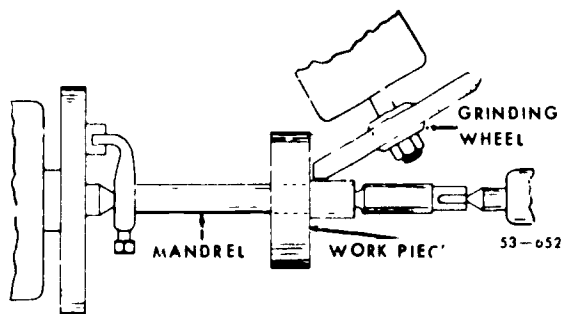

Figure 3-16 Setup for grinding a face shoulder, or recess with an angular shaped wheel
**Face Grinding.** Face grinding is often necessary on heat-treated parts and hard parts to obtain the correct length and finish. In making the work setup, always make sure that the face to be ground is square with the axis of the work. If possible, do all the necessary grinding operations, such as cylindrical, shoulder, and face grinding, at one setting to insure maximum accuracy. There are three methods of face grinding: angular wheel, cup wheel, and straight wheel. You normally use the angular wheel method, shown in figure 3-16, when you grind two or more surfaces, such as a cylindrical surface, the shoulder, and the face. A disadvantage of the angular method is that the axis of the wheel spindle is not perpendicular to the face of the work
When you use the angular wheel method to grind a shoulder, as shown in figure 3-16, swivel the wheelhead 30° to 45° off center. Both faces of the wheel must be at the same angle and of equal length. The horizontal face of the wheel grinds the diameter, and the vertical face of the wheel grinds the shoulder. If a radius is required at the shoulder, you will have to use the radial grinding attachment or the abrasive stick to obtain the correct radius. You must be very careful to prevent wheel breakdown at the point that grinds the shoulder. If you find it difficult to move the wheelhead crossfeed close enough to the table for the correct depth of cut, you can overcome this difficulty by using the extension spindle. Always use as narrow a wheel as possible. It